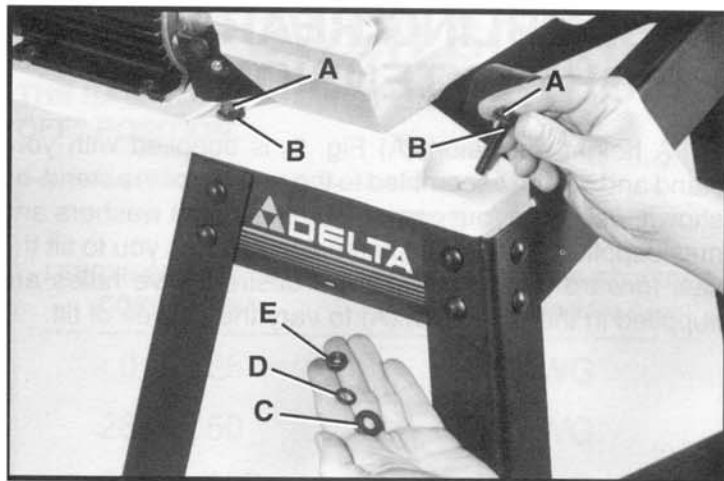

Fig. 5
1. Place scroll saw on top braces of stand and fasten front of saw to top front brace using the two 1-1/2" long screws (A) Fig. 5, flat washers (B) and two flat washers (C), lock washers (D) and hex nuts (E) from below.